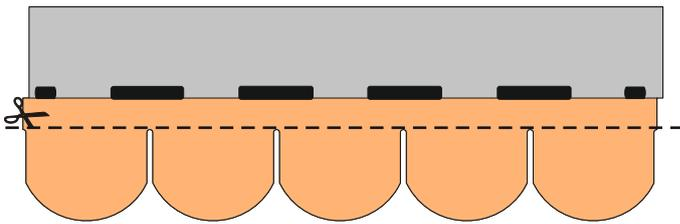
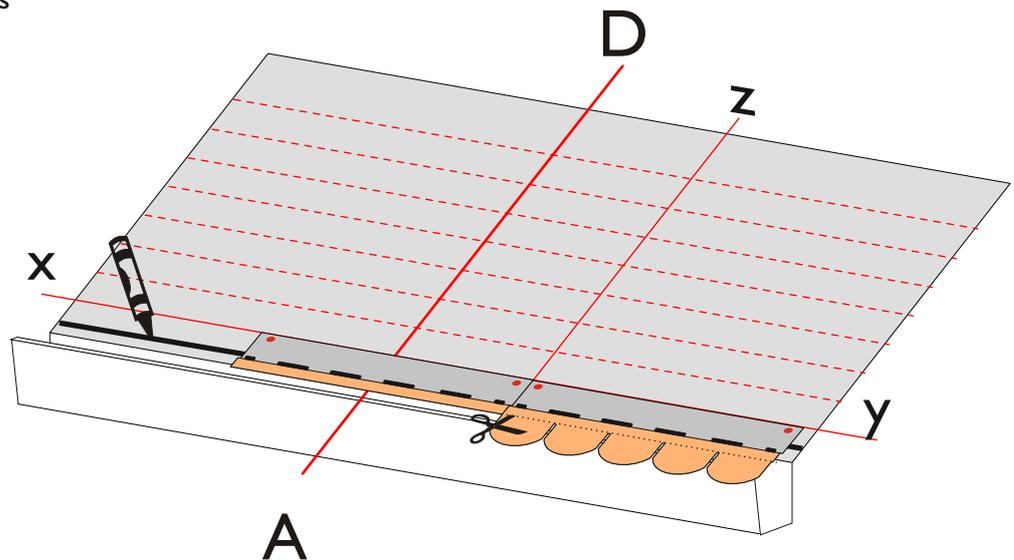

Fig. 2 Trimming the tabs
Fig. 3 - Installation of the starter course
- Apply a line of bituminous mastic “Bitustick” along the eaves (Fig. 3); trim the tabs from the bituminous shingle to form the starter course (Fig. 2) and align it to the line z (see Fig. 3).